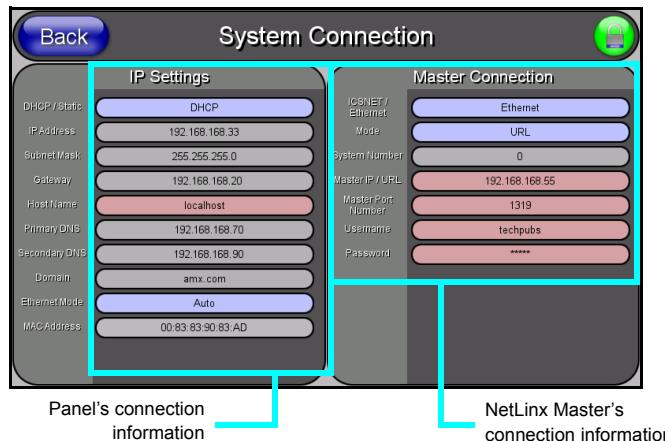

FIG. 5 Sample System Connection page
5. Press the **System Connection** button to open the System Connection page (FIG. 5).